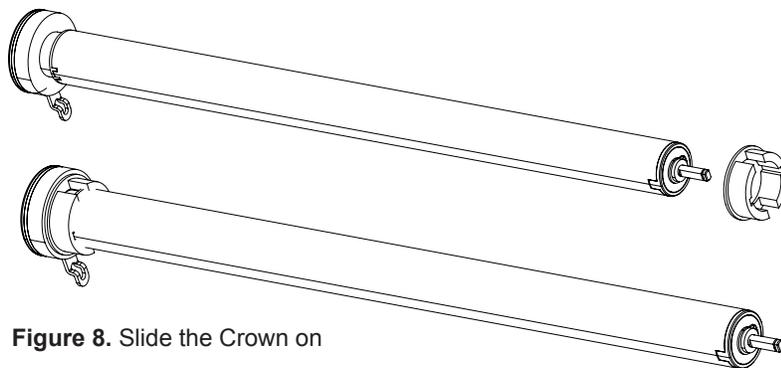

Figure 8. Slide the Crown on
Step 6. Slide the crown onto the motor as shown in **Figure 8**.